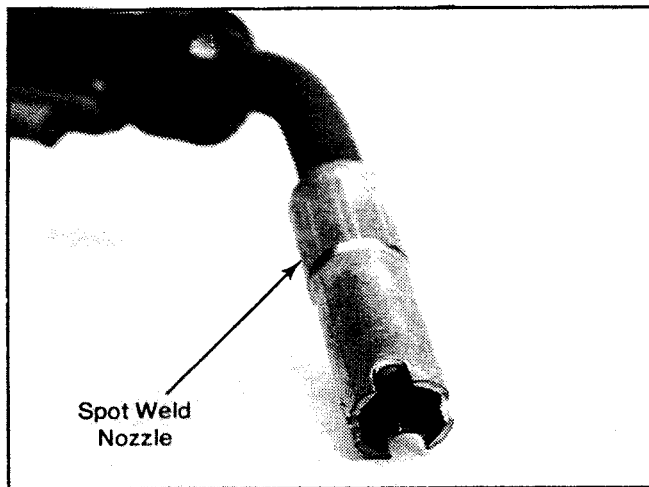

Figure 19
1. Attach spot weld nozzle to gun. (See Figure 19) It is recommended you apply anti-spatter spray to nozzle and contact tip.